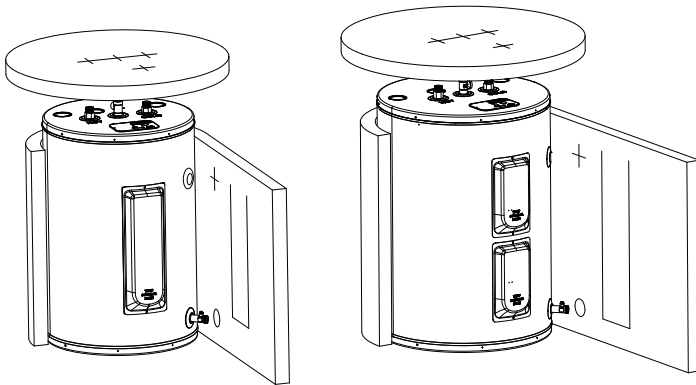

Figure 1
1. wrap the cover around water heater as shown in Figure 1, pay attention to the matching between the hole positions of the cover and the corresponding installation positions of valve bodies on the Water heater.